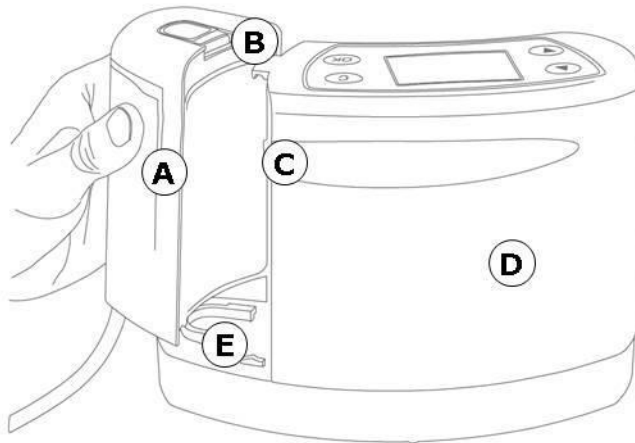

Fig. 6 Connection of the disposable secretion canister
1. Remove the disposable secretion canister (Fig. 6 (A)) from the packaging.
2. Slide the canister onto the guide rail (Fig. 6 (E)) of the **ASSKEA ped M** until the disposable secretion canister clicks into place in the locking mechanism (Fig. 6 (B)).
5. Connect the patient connection of the disposable liner "OneWay" (Fig. 6 (B)) to the suction tube. Ensure that the tube is fixed sufficiently tightly.
4. Press on the locking mechanism at the top of the canister (Fig. 6 (B)) and keep it pressed while pulling the disposable secretion canister horizontally away from the device.